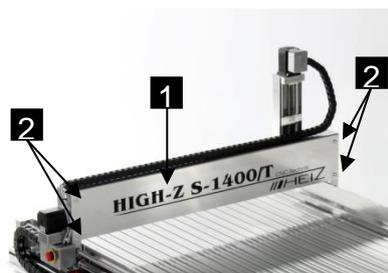

Figure 32: Cover Y-axis
- 2 Loosen and remove the four screws (Fig. 32/2)
- 3 Cover (Fig. 32/1) to remove the Y-axis.